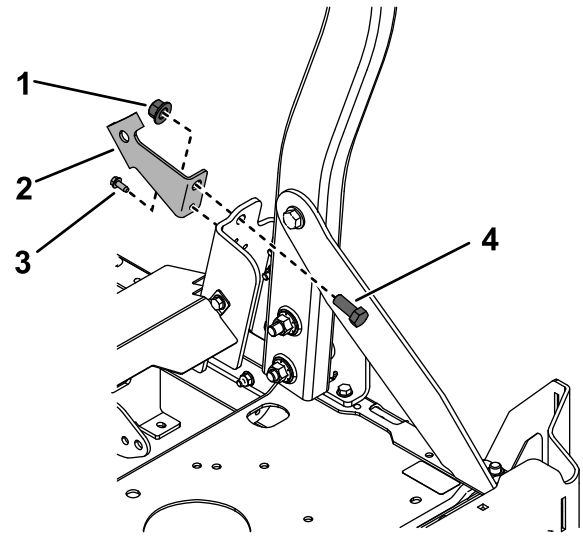

Figure 7
1. Install the left and right seat-belt brackets using 1 bolt (1/2 x 1-1/4 inches), 1 locknut (1/2 inch), and 1 self-tapping screw (1/4 x 5/8 inch) for each bracket (Figure 7). Torque the bolts to 102 N·m (75 ft-lb).